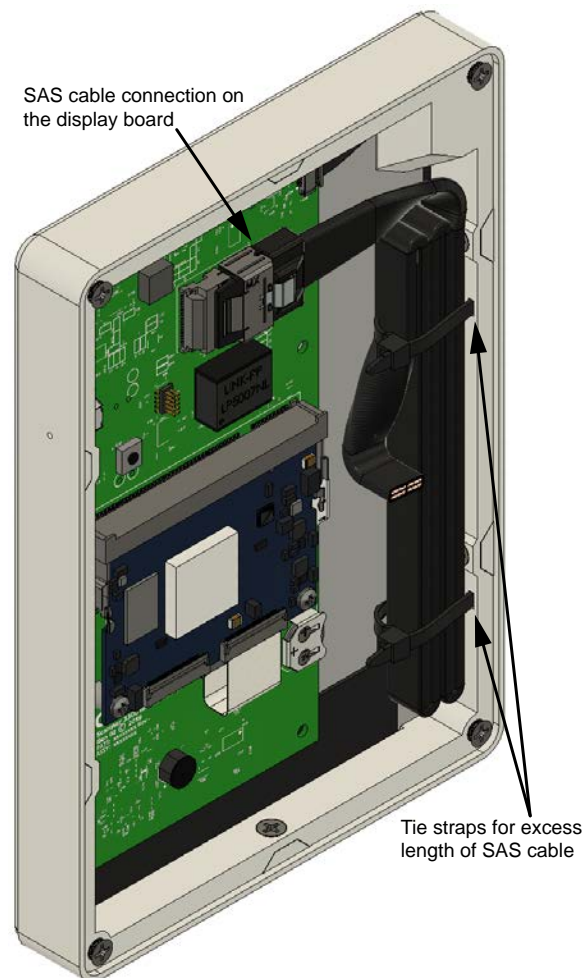
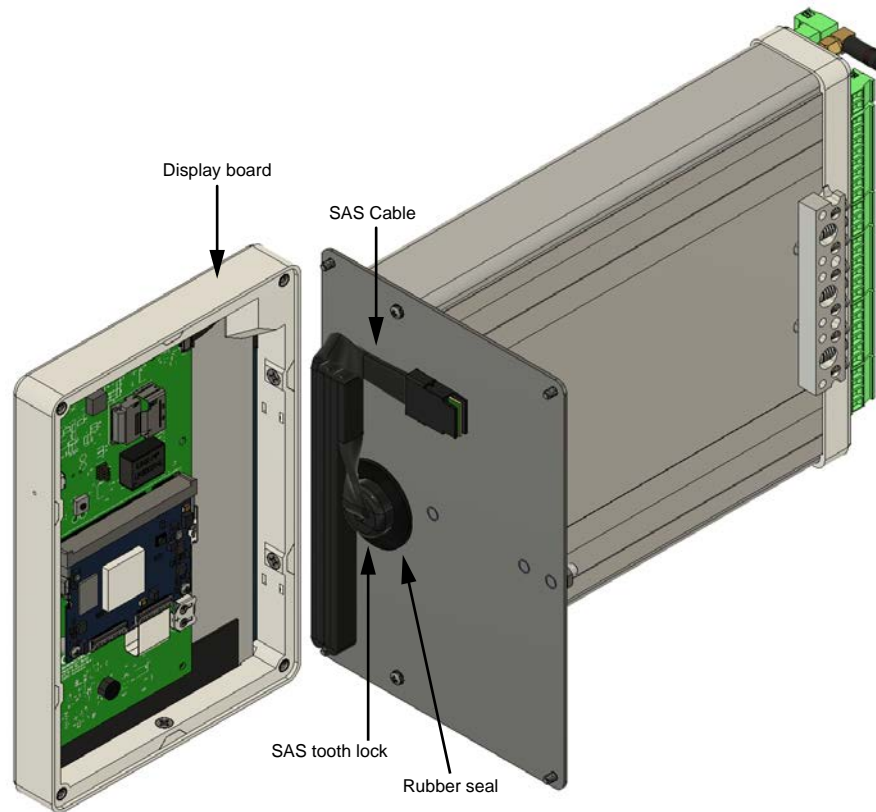

Figure 5.1 - QRATE Scanner 3300 display assembly.
Figure 5.3 - QRATE Scanner 3300 display assembly and main enclosure assembly.
The QRATE Scanner 3300 display circuit is installed in a compartment (Figure 5.1) of the enclosure, and requires access to the power and Ethernet for circuit replacement.
4. Cut and remove the tie straps (Figure 5.1, page 69) on the extra length of the SAS cable, and disconnect it from the display assembly (as shown in Figure 5.3).
7. Connect the SAS cable to the new display assembly, and tie wrap the excess length to the inside of the enclosure (as shown in Figure 5.1, page 69).